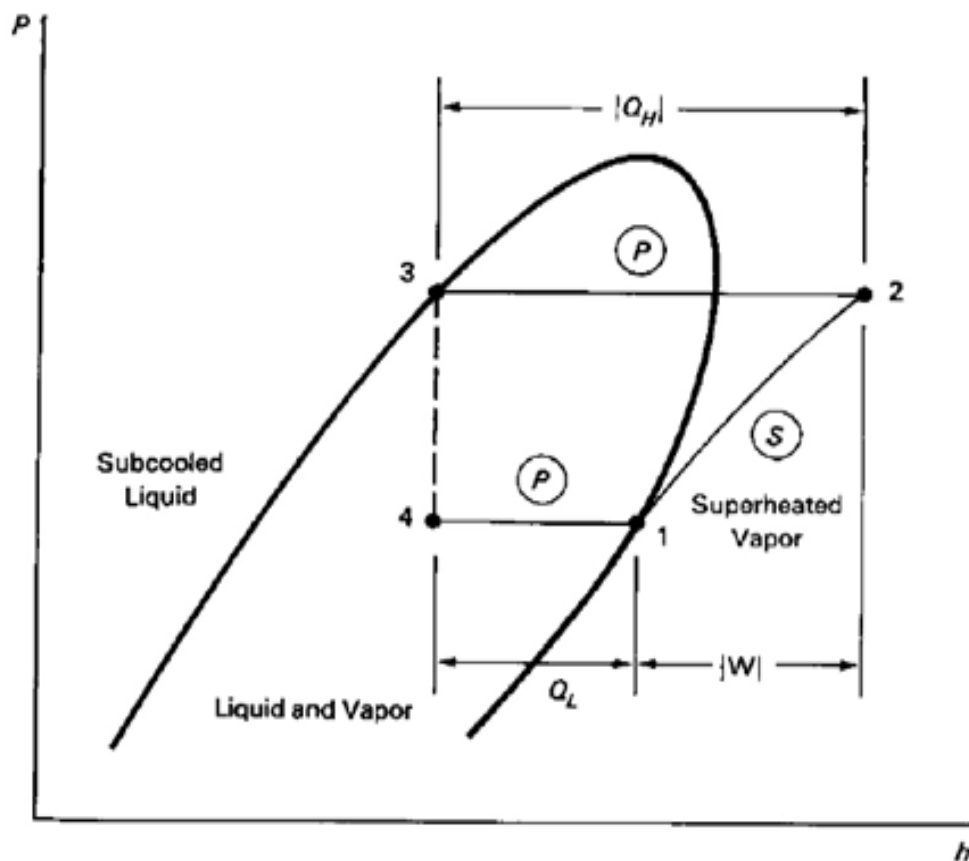

Figure 2. Pressure-Enthalpy diagram for refrigerant
Refrigeration cycles are typically represented by a pressure-enthalpy diagram. Because the refrigeration cycle is a process where the refrigerant changes phases as it goes around the cycle, the pressure-enthalpy diagram covers the liquid phase, vapor phase and the liquid/vapor phase areas. A graphic diagram of the cycle is illustrated in Fig. 2 showing a pressure/enthalpy diagram. This diagram shows each one of the points at which the refrigerant leaves one component and enters the next one.
- A) The cooling takes place in the evaporator. The evaporation process occurs at low pressures and low temperatures. Here the refrigerant absorbs heat from the environment around it, and cools the environment. When the refrigerant absorbs the heat from the environment, this heat will cause the refrigerant (which is liquid when it gets into the evaporator) to change phase from liquid to gas. Point 1 in figure 2.
- B) The still cold refrigerant gas now, is aspirated by the compressor and compressed to a higher pressure and consequently higher temperature (in most cases) by using mechanical energy (compressor). Here the refrigerant gas heats up (remaining as gas) due to the compression process. This process is illustrated as the refrigerant goes from point 1 to point 2 in figure 2 below.
- C) The hot refrigerant gas from the compressor now goes into the condenser which by using either cooling water or atmospheric air, is cooled down to the point of condensation. Here the hot refrigerant gas from the compressor is transformed into cool high-pressure liquid refrigerant. In order to do that, it needs to give up energy. This process is illustrated as the refrigerant goes from point 2 to point 3 in figure 2 below.
- D) The high pressure cooled liquid refrigerant, from the condenser now goes to the expanding valve, where when it passes through it, it turns into a low-pressure liquid (sometimes, depending on the conditions of the refrigerant, some small amount of gas is formed) at a lower temperature. Now the refrigerant is ready to enter the evaporator and complete the cycle. This process is illustrated as the refrigerant goes from point 3 to point 4 in figure 2 below.